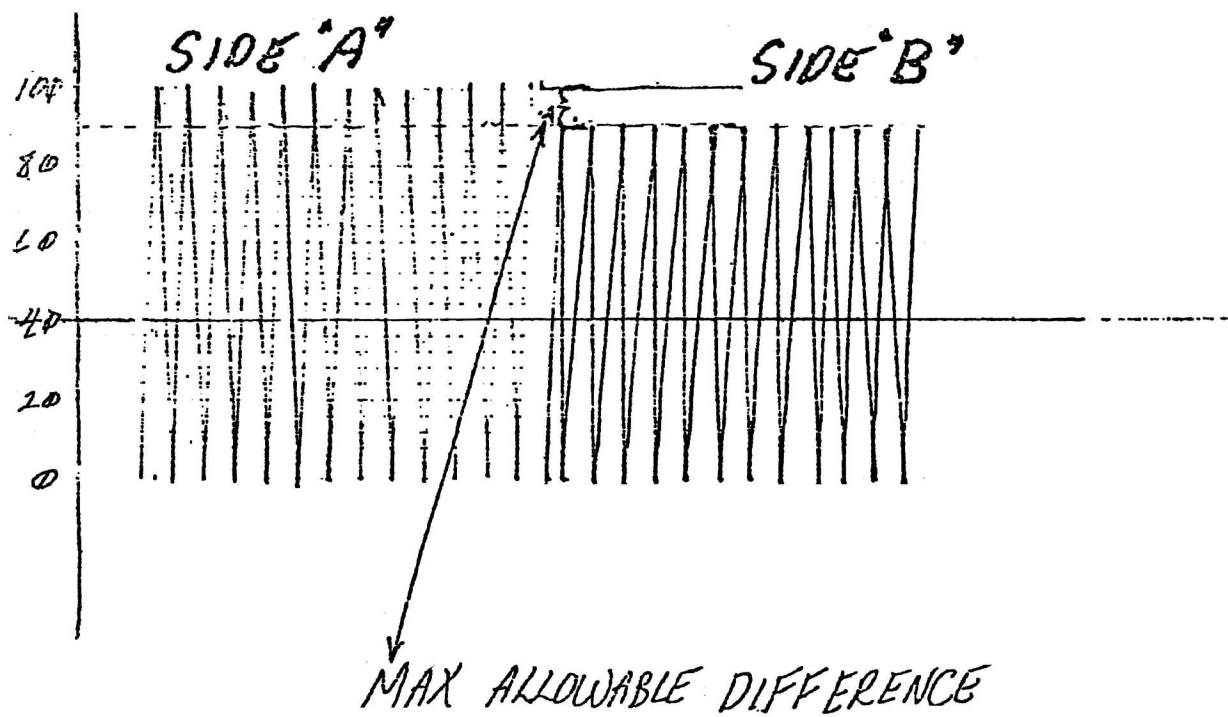

figure 2
- 6. Set volume to show 100 milivolts peak to peak signal on oscilloscope. (See figure 2)